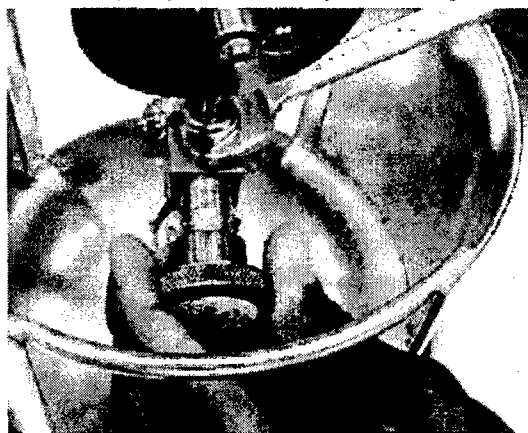

Figure 6-4.5 Attaching flow restrictor to canister
- 6 Connect the restrictor outlet to the inlet of the evacuated practice canister as shown in Figure 6-4.5. Grasp the canister inlet with a free hand while tightening the swagelock nut on the restrictor outlet until firmly snug. Do not over tighten the swagelock nut.